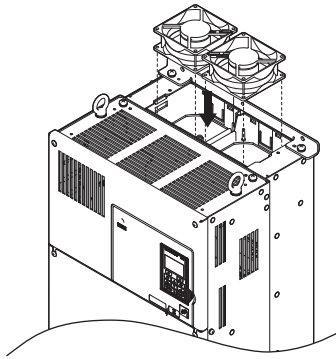

Figure 7.15 Installing the Cooling Fan: 4□0075 and 4□0091
1. Install the replacement fan into the drive. Align the pins as shown in *Figure 7.15*.
3. Angle the fan cover as shown in **Figure 7.15** and insert the connector tabs into the corresponding holes on the drive.